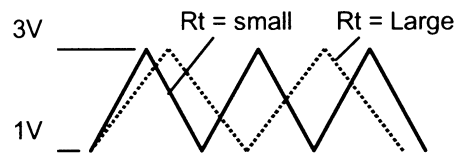

Fig. 2 Oscillator output
The built-in capacitor voltage oscillates between about 3V and 1V, with almost the same charging and discharging gradients (Figure 2). You can set the desired oscillation frequency by changing the gradients using the resistor connected to the RT pin. (Large  $R_t$  = low frequency, small  $R_t$  = high frequency) The oscillation frequency is automatically lowered when output duty cycle is small ( $FB \leq$  about 1.18V) in light load mode. For more information, see item 2, "Reducing oscillation frequency circuit in light-load mode."